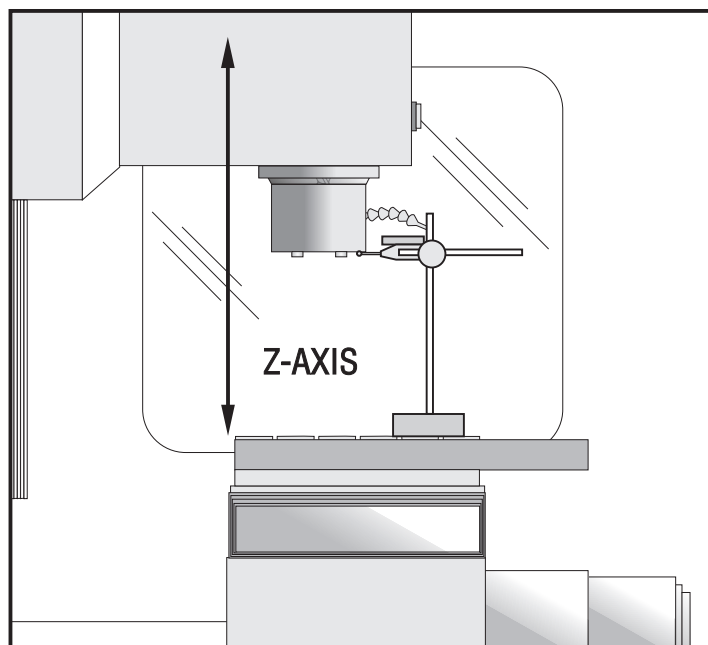

Figure 3-3. Dial indicator in position to check Z-axis.
1. Set up a dial indicator and base on the mill table as shown in Fig. 3-3.